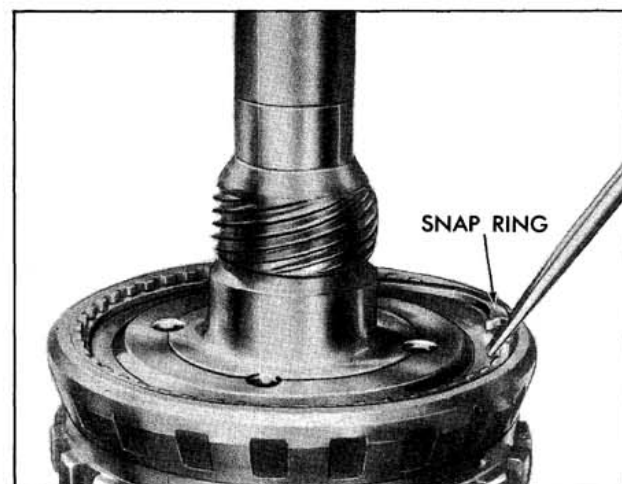

Fig. 6-86 Removing Snap Ring
9. Remove output shaft to output carrier snap ring and remove output shaft. (Fig. 6-86)